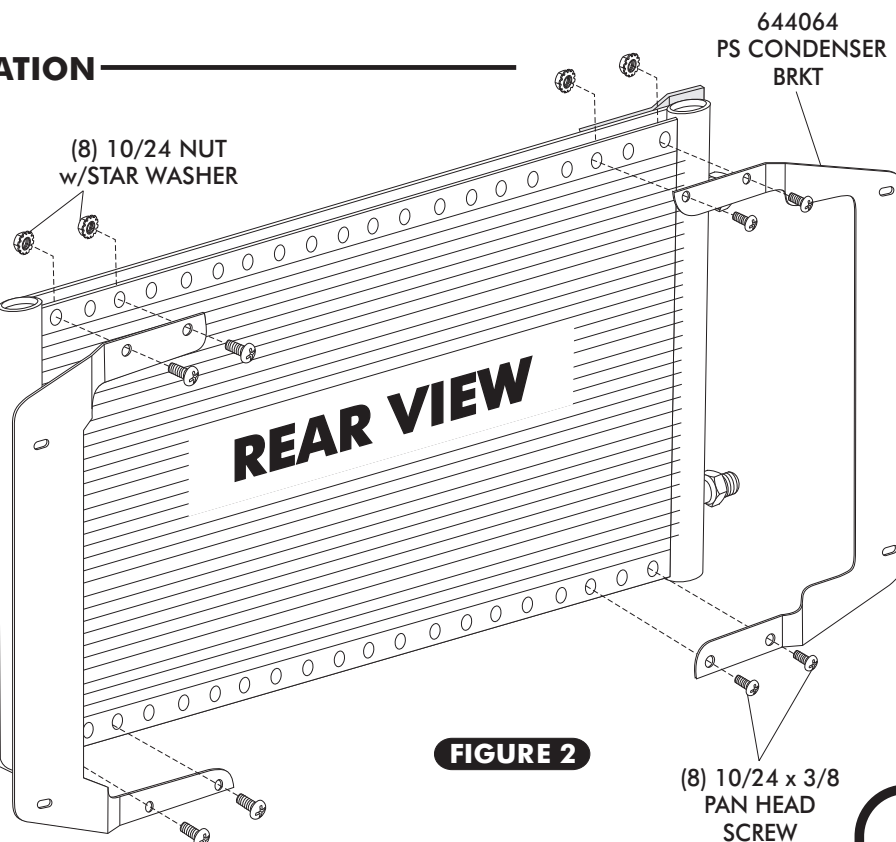

FIGURE 2
- INSTALL CONDENSER MOUNTING BRACKET ONTO CONDENSER USING (8) 10/24 x 3/8 PAN HEAD SCREWS AND (8) 10/24 NUTS WITH STAR WASHERS. SEE FIGURE 2 BELOW.